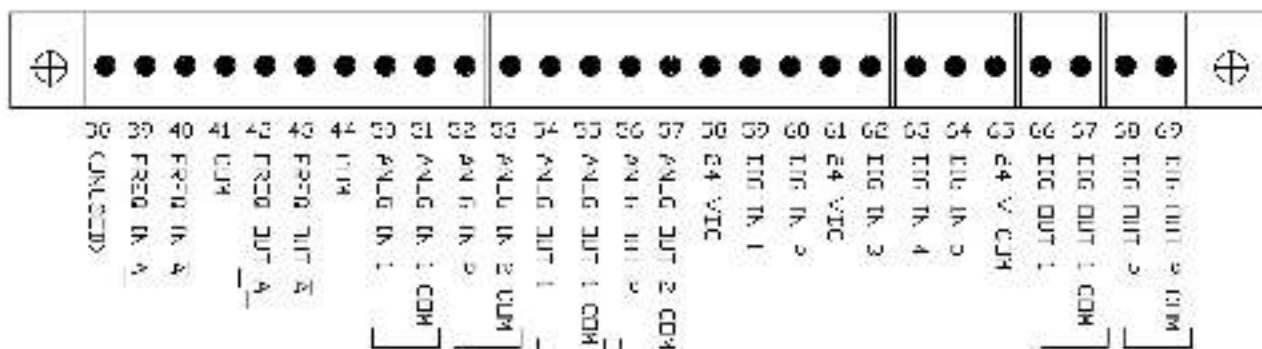

Figure 3 - Terminal Strip Wiring
- Step 14. Make the input and output connections to the I/O Expansion board terminal strip as required for your drive configuration. See figure 3 for the terminal strip wiring connections.
- Step 16. Reattach the carrier shield to the carrier using the four (4) screws.
- Step 18. Reattach the drive cover using the four (4) cover retaining screws.